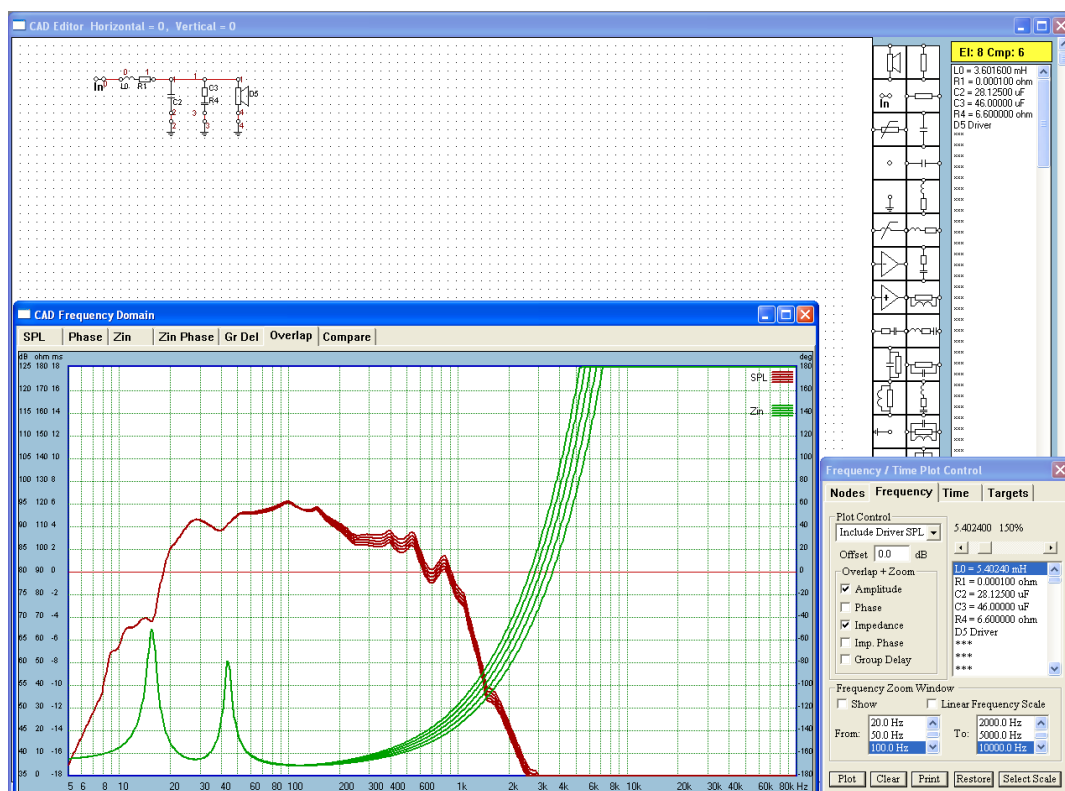

Figure 8.35. Example of “Tweaking” components using “Adjust” function.
In order to facilitate a shortcut to component value entry, we have implemented “Adjust” function. The function is accessed from a list box located on the “**Frequency/Time Domain Plot Control**” Tab – see Figure 8.35. The dialogue box allows you to manually adjust the value of the selected component **within 1% - 1000%** of its original value. All five curves: (1) Amplitude, (2) Phase, (3) Impedance, (4) Impedance Phase and (5) Group delay curves can be nominated to be displayed while the selected component is being tweaked. Finally, a “Clear” function is also provided to clear congested screen.